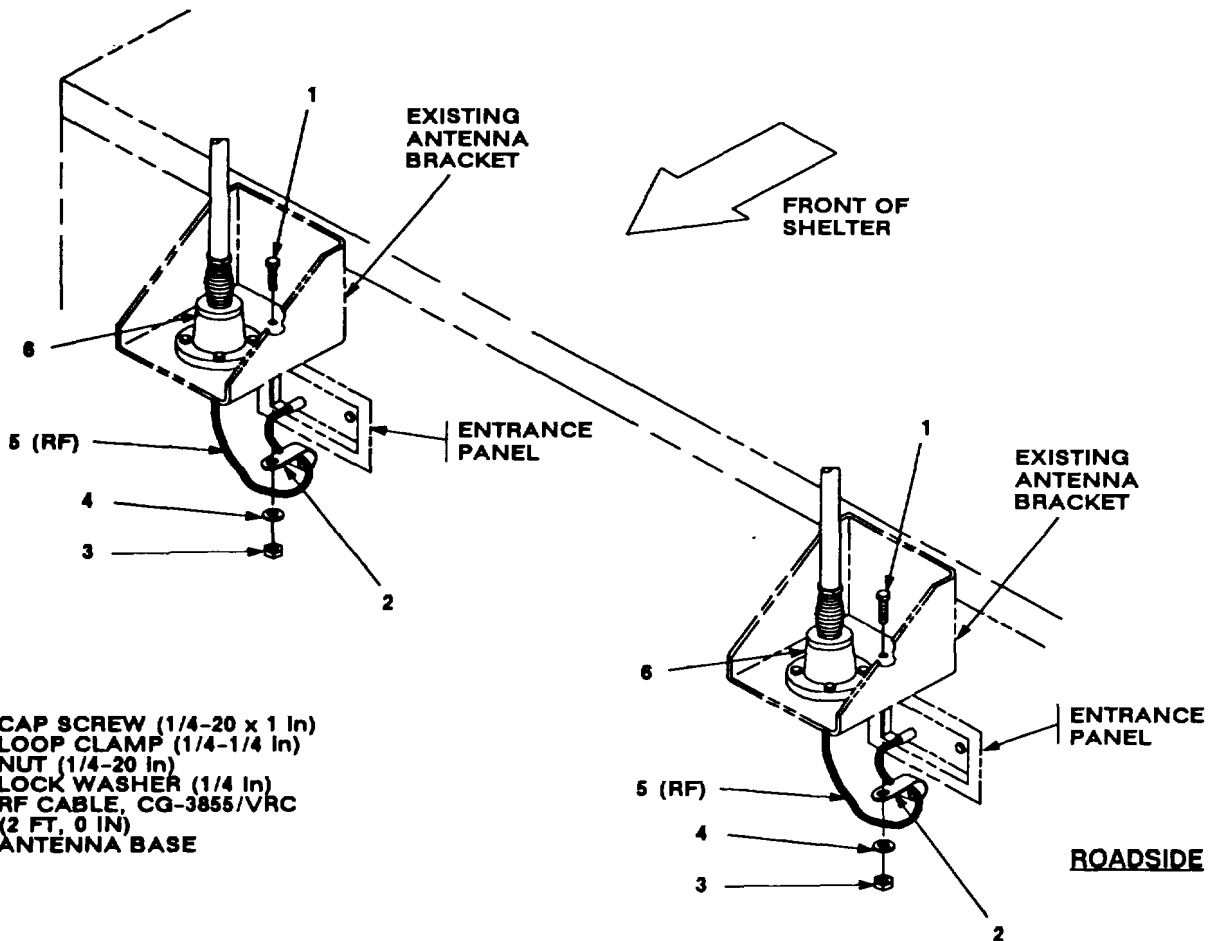

Figure 5-5 (1). Cable Installation: Exterior RF Cabling
a. Two entrance panels.	Install existing connector covers on connectors J6 and J8. See figure 5-5 (1).
b. Roadside RF cable (5) Connector P1.	Connect and secure to antenna base (6) Connector J1.
c. Roadside RF cable (5) connector P2.	Connect and secure to roadside entrance panel connector J9. See figure 5-5 (1).
d. Curbside RF cable (5) connector P1.	Connect and secure to antenna base (6) connector J1.
e. Curbside RF cable (5) connector P2.	Connect and secure to curbside entrance panel connector J7.